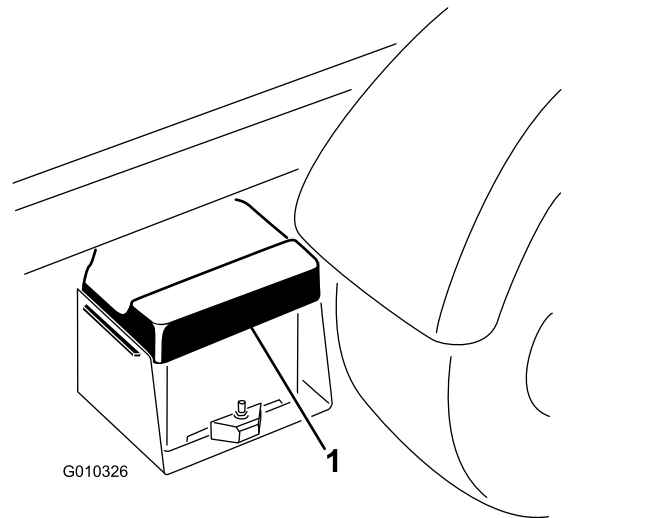

Figure 4
1. Squeeze the battery cover to release the tabs from the battery base (Figure 4).
2. Remove the battery cover from the battery base (Figure 4).
- Align the battery cover to the battery base (Figure 4).
- Squeeze the battery cover, align the tabs to the battery base, and release the battery cover (Figure 4).